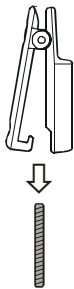

Figure 2
2. Clip the Quick Draw Belt Clip to your belt (Figure 2).